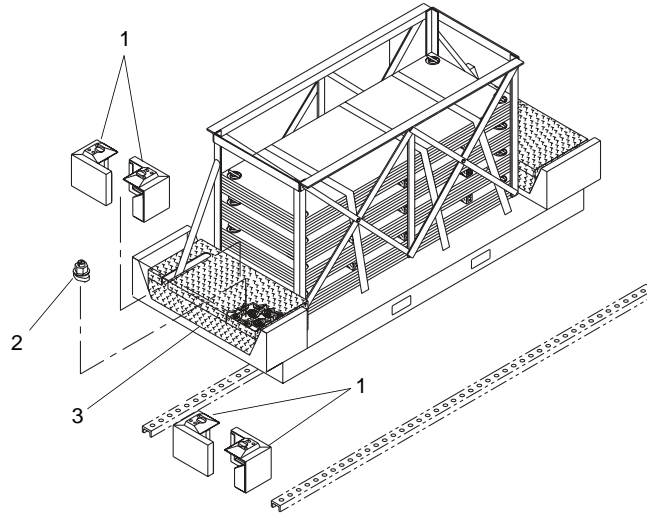

Figure 5. Corner Fenders and Mounting Assemblies
4. Using assistant, remove the corner fenders (figure 5, item 1) from the deck mat container and position them on the FC platform.
5. Remove the corner fender mounting assemblies (figure 5, item 2) from the deck mat pallet toolbox (figure 5, item 3).
6. Disassemble corner fender mounting assemblies (figure 5, item 2).